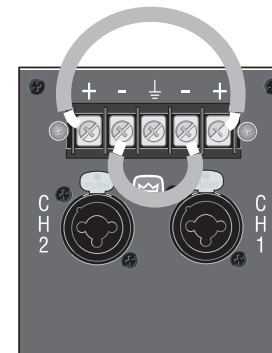

Figure 2.10
2. Feed your signal to the Channel-1 input (either barrier-block or combo). Connect a jumper wire (Figure 2.10) between the barrier-block Channel-1 (+) screw terminal and the Channel-2 (+) screw terminal. Connect another jumper wire between the Channel-1 (-) screw terminal and the Channel-2 (-) screw terminal.